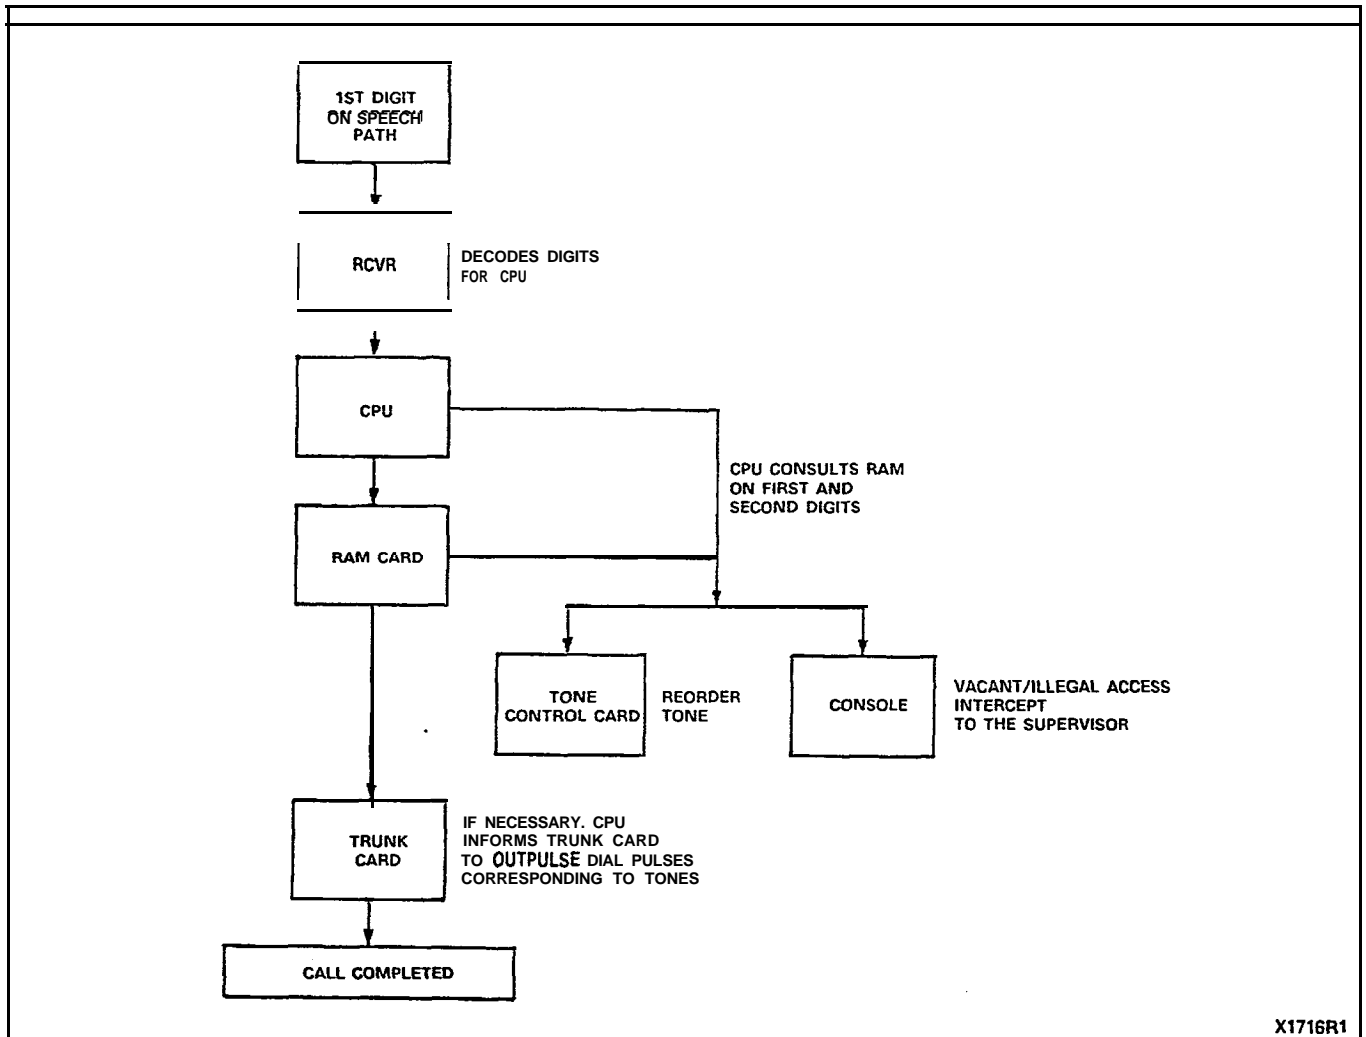

Figure 5-4 Outside Call - 0 and 1 Dialing Restriction
5.06 If the call is an outside call (Figure 5-4) with digits 0, 1, #, or ✕ dialing restriction, the extension must be assigned a speech path (paragraph 5.02). The CPU will then locate a free trunk corresponding to the access code dialed (see Section MITL9105/9110-090-205-NA). If there is not a free trunk, the CPU will connect busy tone (from the Tone Control card) to the speech path. The receiver will decode the first and second digit dialed into the trunk if System Option 291 (First Digit Toll Deny) is selected; only the first digit is monitored on the trunk. The CPU will then decide if the digit that has been decoded is a 0, 1, #, or ✕. If it is, then reorder tone (from the Tone Control card) will be supplied to the speech path that the extension is assigned to and the trunk will be released. If the second digit is